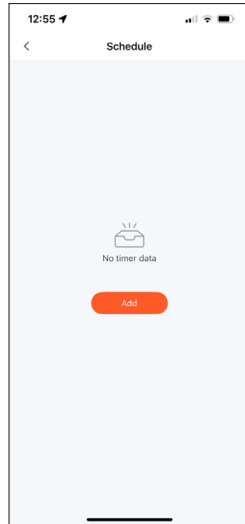

Fig. 4
2. Tap the Add button to create a new schedule (see Fig. 4).